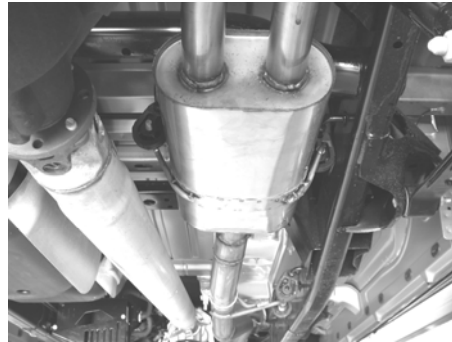

Figure 8
2. Place a clamp over the expanded end of the muffler assembly and set it into position as shown in figure 8 installing the hangers into the rubber brackets. DO NOT tighten the clamp.